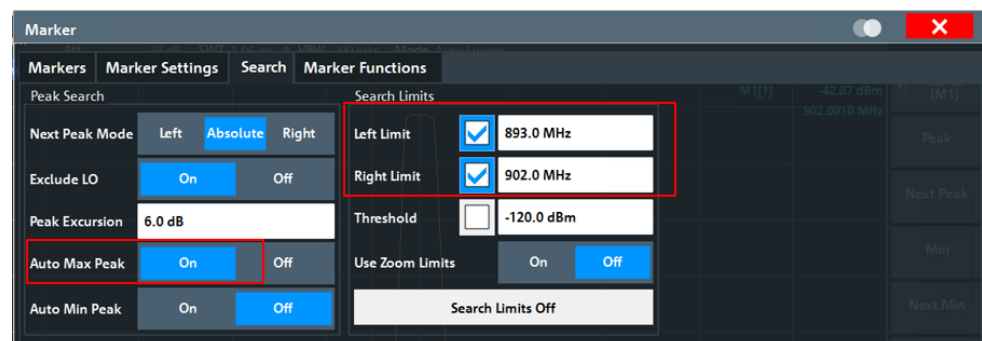

Figure 2-15: Definition of search range for maximum level value below ISM band
20. In the *Search* tab, define a range (lower edge of the ISM band) for the marker-to-peak search. Set the *Auto Max Peak* function to *On* (Figure 2-15).